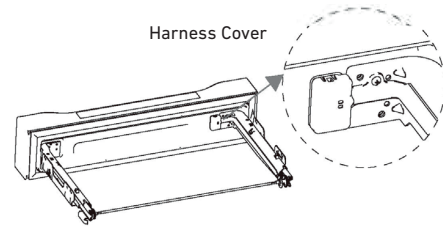

Figure 5
- 5) Remove the harness cover with a screwdriver or other appropriate tool. See Figure 5.